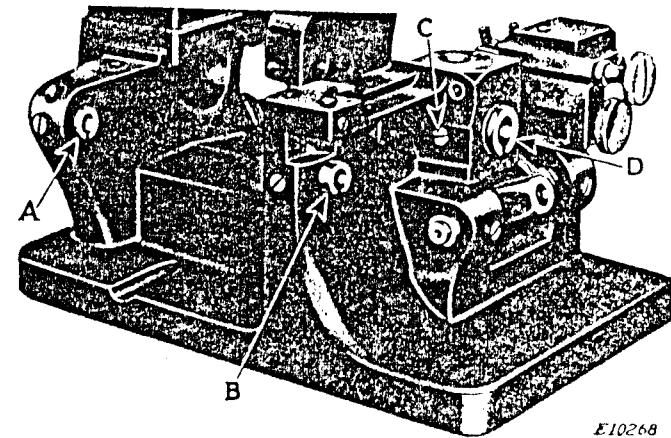

Fig. 34
Replace the front rotary shaft bushing (D), having the wick exactly in the center at the bottom to make contact with the primary wick (C, Fig. 6). Then locate the hole in the bushing through the tapped hole shown at (C, Fig. 34) so that it will receive the end of the set screw. Insert the screw and firmly tighten it.